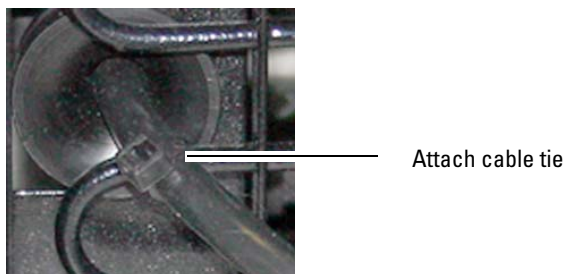

Figure 20: Attach cable tie to line cord
7. Hold the line cord taut to remove any slack, attach the cable tie (489-0110-00) as shown in Figure 20).